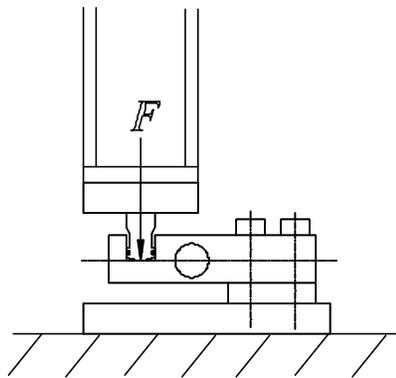
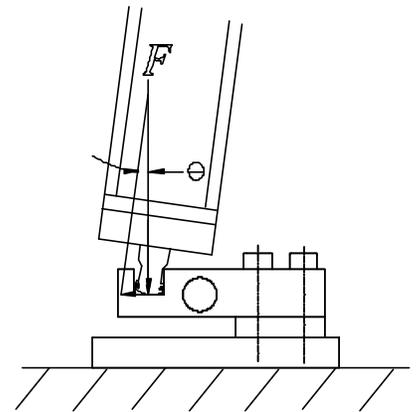

Figure 5-2a: Vertical Force
Figure 5-2b: Angular Force
Figure 5-2a and Figure 5-2b show a weigh module application with the load cell anchored to a foundation. In Figure 5-2a, the force exerted by the tank's weight is perfectly vertical. In Figure 5-2b, the force is applied at an angle. The vertical component (F) of this angular force is normal to and sensed by the load cell; it is equal to the force applied in Figure 5-2a. The horizontal component (side load) = $F \cdot \text{Tangent } \theta$.